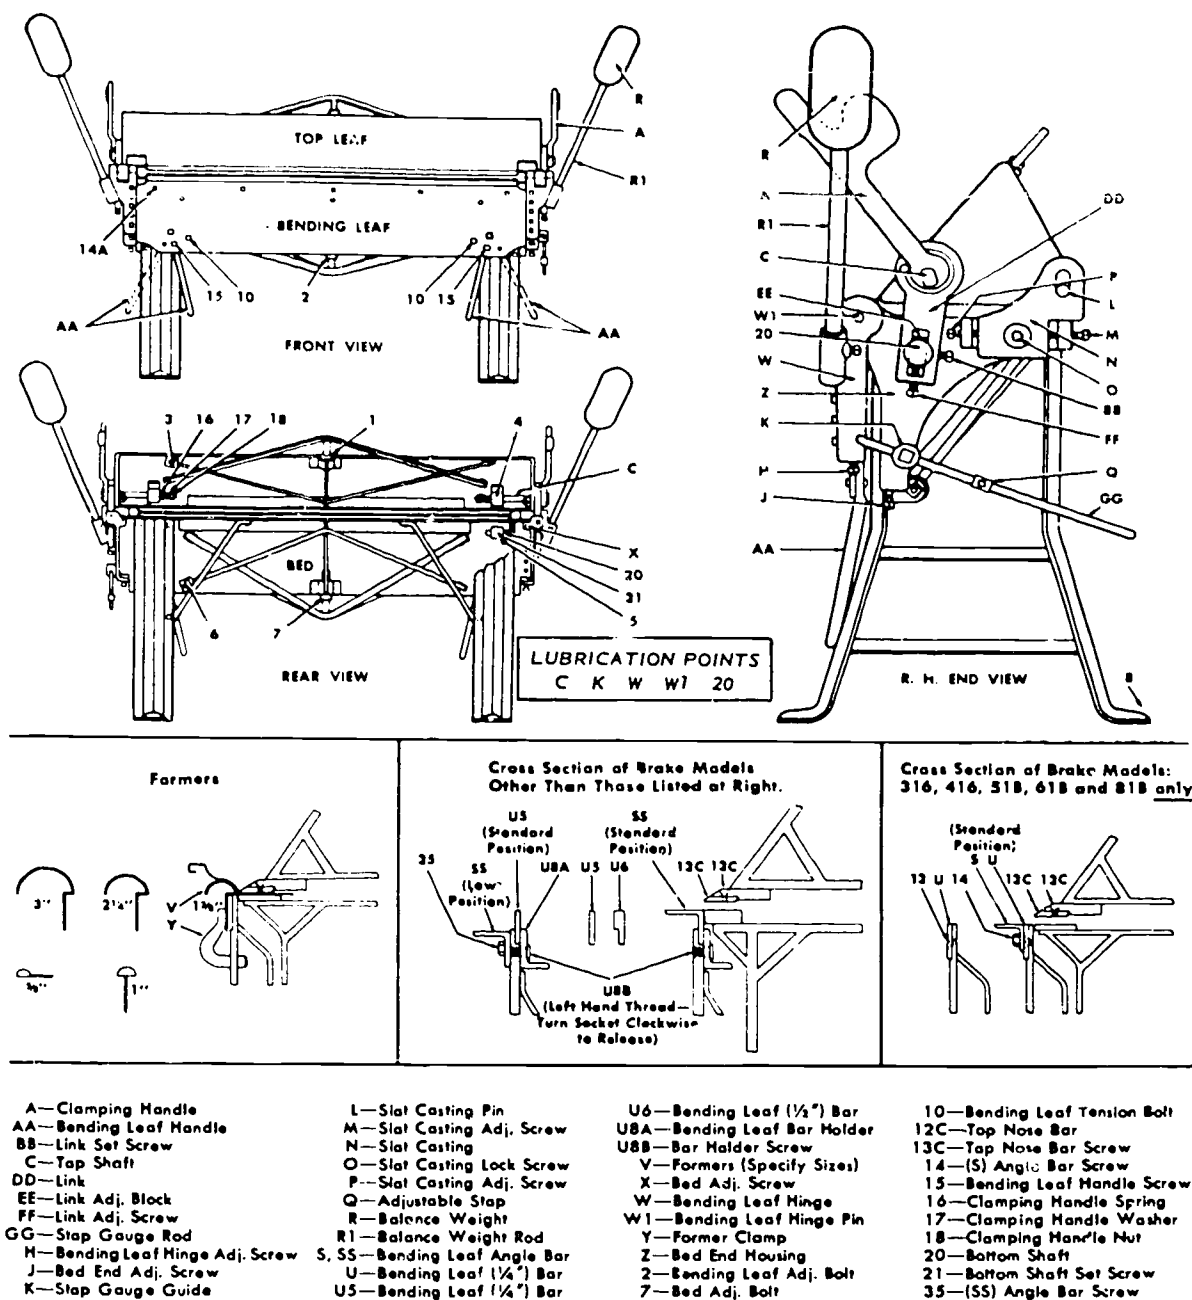

Figure 3-2. Cornice brake.
**Cornice Brake.** The cornice brake, illustrated in figure 3-2, is a type of folding machine that has a much greater range than most folders. The cornice brake not only forms locks and bends, but it can do complicated jobs, such as forming complex seams and shapes, because of its construction. It also forms square, round, ogee bends. It can be used for many jobs, such as forming ducts, gutters, transitions, flashing, and gravel guards as well as joints, seams, and locks. For example, a Pittsburgh lock can be formed very easily with the cornice brake if a Pittsburgh machine is not available.
The cornice brake must be level on the floor to prevent creeping of the top leaf when metal is clamped between the top leaf and the bed. If the top leaf creeps, screw P and screw O should be checked; both are shown in figure 3-2. If adjusting these screws does not remedy the creeping, put a wedge of wood or similar material under the rear leg on the side that creeps. The wedge should be forced until the creeping is eliminated. Then replace the wedge with a permanent block that is the proper height.
The clamping pressure should be tight enough to hold the metal in place while the bend is made. Different gages of metal require different adjustments; therefore, you must realize that every gage of metal has its own adjustment. Remember, the pressure should be equal on both ends of the machine. This clamping pressure can be changed by adjusting the link block (EE in right-hand view of fig. 3-2) To do this job:
After the cornice brake has been correctly adjusted, place the metal on the bed beneath the top leaf. Partially lower the top leaf by pulling the clamping handle (A in fig. 3-2) forward. Align the scribed break line on the metal (or prick points) with the nose bar (12C) on the top leaf; then pull the clamping handle until the metal is firmly clamped. To make the fold, pull the bending leaf handle (AA) forward and upward, which swings the bending leaf forward and upward as it pivots on the bending leaf hinge pin (W1). As the bending leaf swings up, the balance weights (R) move backward, acting as counterbalance weights for easier manual operation. When the desired angle of bend is reached, lower the bending leaf by movement of its handle or the balance weight. When the clamping pressure is released, remove the metal.
The capacities of machines like the one illustrated in figure 3-2 range from 22- to 16-gage sheet metal, and bending lengths range from 3 to 12 feet. However, the bending capacity of the cornice brake is determined by the bending edge thickness of the various bending leaf bars (S, SS, U, U5, and U6 in fig. 3-2). Bending leaf angle bars S and SS permit a smooth 1-inch flange to be made in a piece of material that is within the capacity of the cornice brake. Some pressure is released on the bending leaf bar identified as U when the S or SS bar is installed.
In figure 3-2, bending leaf bar U6 is a 1/2-inch bar for the bending leaf. When U6 is used to make flanges, the capacity of the brake is reduced by 4 gages. For example, if the cornice brake is rated at 16 gage, the capacity with a 1/2-inch U6 bending leaf bar will be 20 gage.
Suppose you are using the cornice brake to make small offset bends 1/4 inch wide. If your brake is like model 316, illustrated in figure 3-2, the bending leaf bar identified as U should be removed. If your brake is a model other than those like model 316, the 1/4-inch offset can be made by installing bending leaf bar U5. In both of these situations, the rated capacity of the cornice brake is reduced 7 gages. For example, a cornice brake rated at 16 gage is reduced to 24-gage capacity. You should remember this capacity change, because the bending leaf can easily be warped if
Molds or formers, as illustrated in figure 3-2, can be obtained in half-round sizes, such as 5/8, 1, 1 1/4, 2 1/4, and 3 inches, and are used most often to make gutters. These formers are attached to the brake with clamps Y; usually three to five clamps are used.